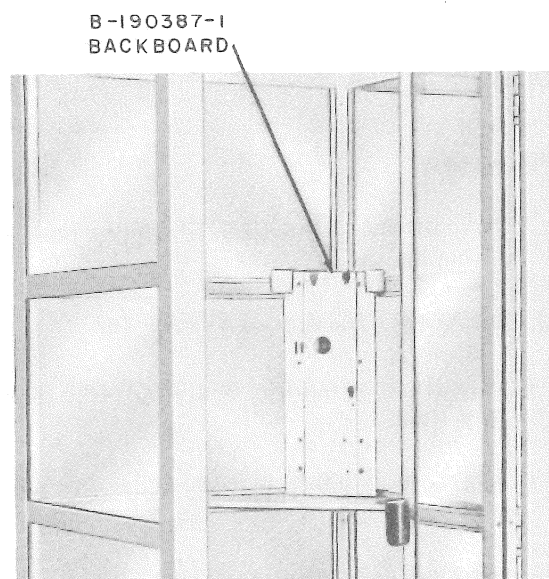

Fig. 14—KS-16797 Booth With B-190387-1 Backboard Installed
- (a) *B-190387-1 backboard (Fig. 14)*